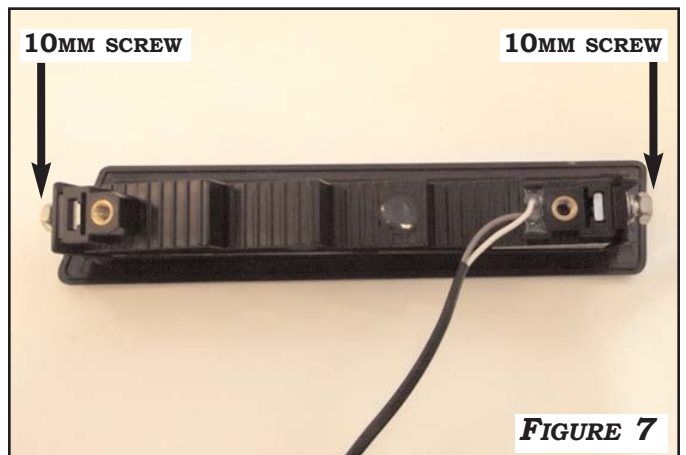

FIGURE 7
3. USE (2) 10MM SCREWS PROVIDED THE KIT TO INSERT INTO EACH END OF THE DRL FRONT BEZEL. USE A 10MM WRENCH TO TIGHTEN THE SCREWS INTO THE M6 NUT OF THE LED HOUSING. **FIGURE 7**
3. USE (2) 10MM NUTS & WASHERS PROVIDED THE KIT TO SCREW ONTO BOTH BOLT STUDS OF THE DRL FRONT BEZEL. USE A 10MM WRENCH TO TIGHTEN THE NUTS AND WASHERS SECURING THE DRL FRONT & BACK BEZELS TOGETHER. **FIGURES 7 & 8**